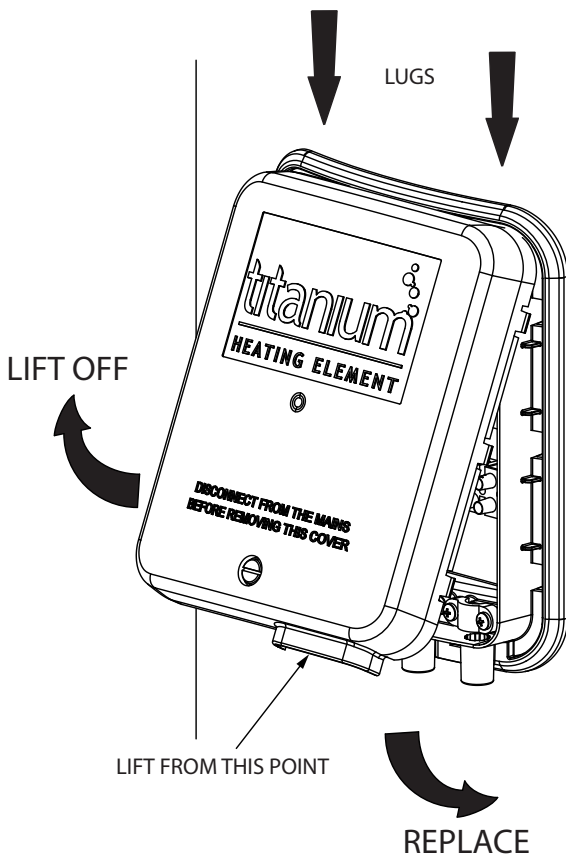

Figure 12: Immersion heater cover removal and replacement
- ▶ The immersion heaters are accessed by removing the Control Cover (see Fig 12).
- ▶ Lift from the bottom of the cover at the point indicated on Fig 12 until cover comes away freely.
- ▶ Replace the Control Cover(s) before operating. To do this tilt the cover and align the top two lugs with the holes in the housing as indicated on Fig 12. Hinge the cover downwards and firmly press the cover until it "snaps" back into place. Secure by tightening the screw on the cover using a flat ended screwdriver. DO NOT OVER TIGHTEN
- ▶ The indirect controls and back-up immersion heater are accessed by removing the Control Cover (see Fig 12).
- ▶ Lift from the bottom of the cover at the point indicated on Fig 12, page 18 until cover comes away freely.
- ▶ Replace the Control Cover(s) before operating. To do this tilt the cover and align the top two lugs with the holes in the housing as indicated on Fig 12. Hinge the cover downwards and firmly press the cover until it "snaps" back into place. Secure by tightening the screw on the cover using a flat ended screwdriver. **DO NOT OVER TIGHTEN**